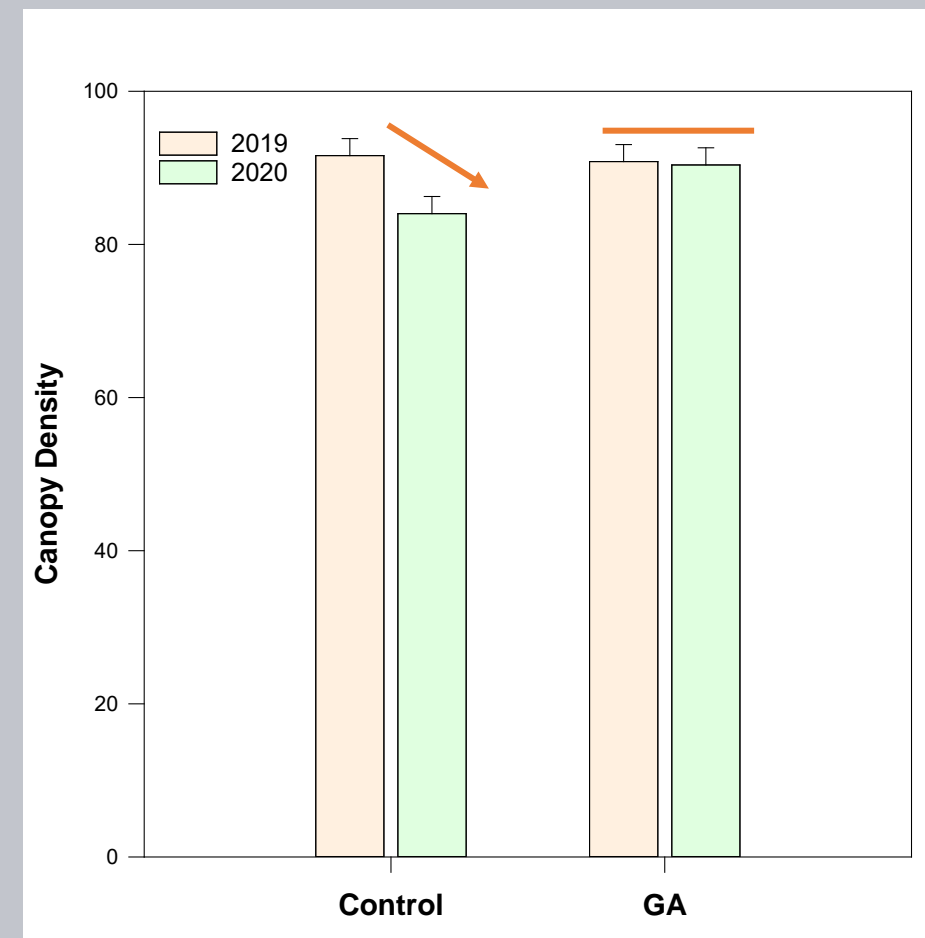

Figure 1. GA-treated trees maintained canopy density while untreated trees decreased in canopy
- GA increases vegetative growth (Figure1).